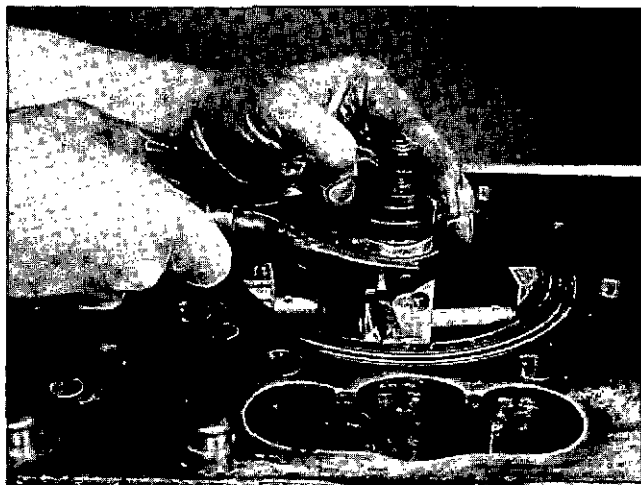

Fig. 1-2-4, V40133. Initial stone expansion
7. Insert hone assembly into top of cylinder liner. Raise center pinion (knurled nut) assembly 1/4 inch [6.3500 mm] and turn counterclockwise (left) to expand stones to approximate bore size. Fig. 1-2-4. Push center pinion down until its inside gear engages outside gear on hone body. Attach hone to quick coupler.